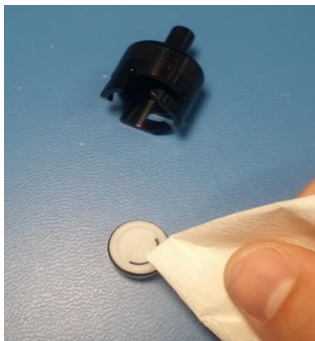

Figure 2. Cleaning Impact Plate
3. Apply a small amount of rubbing alcohol to a non-fibrous paper (such as a Kimwipe) and wipe off any visible dust or fibers collected on the white porous surface. See **Figure 2**.